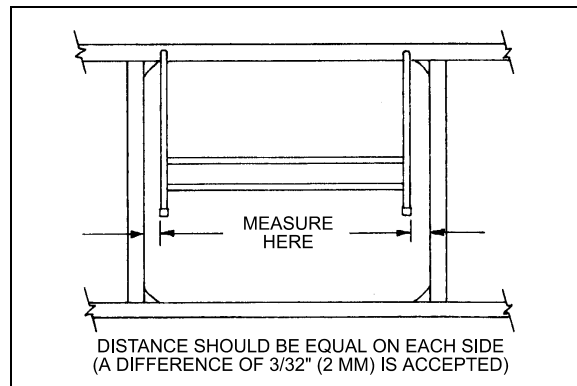

FIGURE 60: PANTOGRAPH DOOR ADJUSTMENT 18063
5. When the door is straight, remove the 2x4's and check door operation and fit. A difference of 3/32" (2mm) between both sides is accepted (Fig. 60).